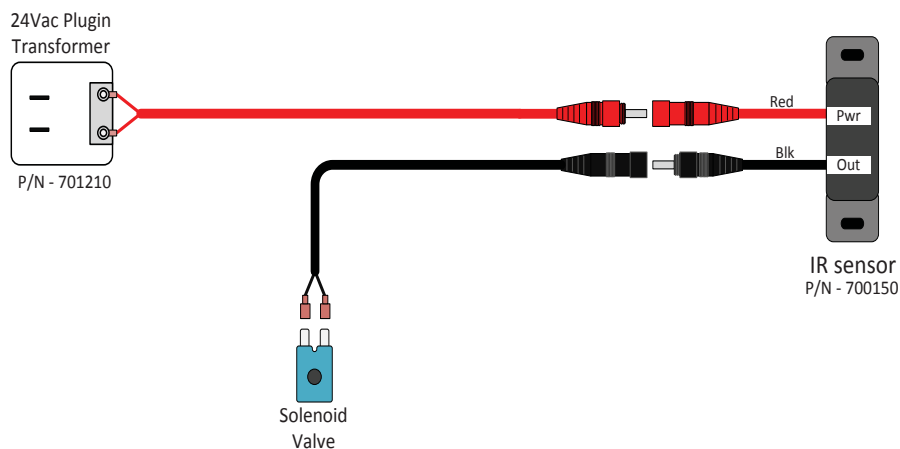

Figure 2
4. Connect the red male power cable to the red female connector on the sensor. See figure 2.
5. Connect the black female solenoid cable to the black male connector on the sensor. See figure 2.